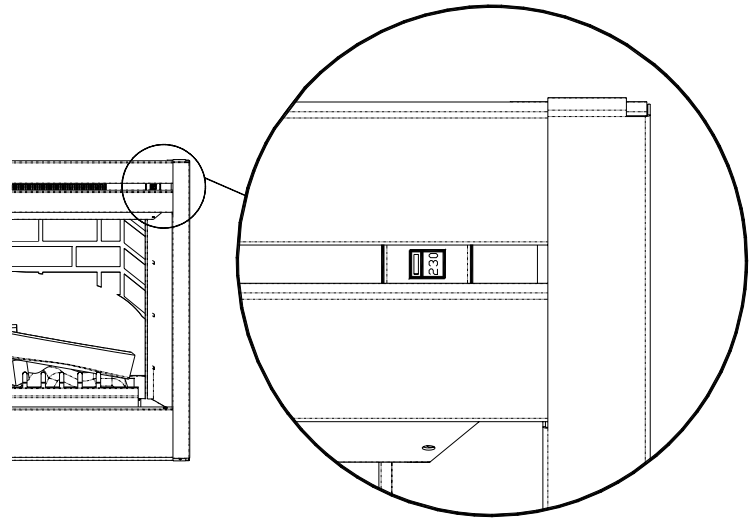
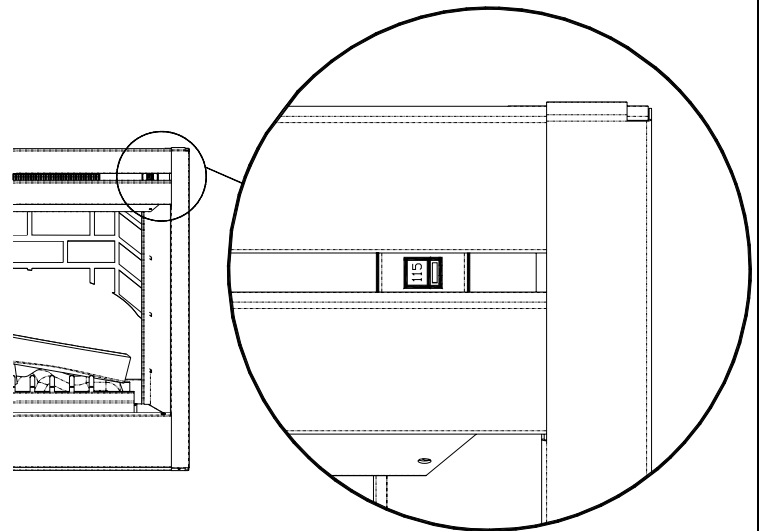

FIGURE 1
FIGURE 2
6. Unit is factory wired for 208/240 volt power supply **(see figure 1 on page 3)**. If 120 volt operation is required, slide the switch and reconfigure the wiring **(see figure 2 on page 3)**. Wires L1, L2, N & G are attached to the rear of the junction box cable clamp for easy access.
When wiring the unit for 208 / 240 volts the voltage selector switch should be in the 230 volt position. (see figure 1)
When wiring the unit for 120 volts the voltage selector switch should be in the 115 volt position. (see figure 2)
1. Locate the voltage selector switch inside the exhaust panel on the top right hand corner of the unit. (see figure 1 on page 3)
1. Locate the voltage selector switch inside the exhaust panel on the top right hand corner of the unit. (see figure 2 on page 3)